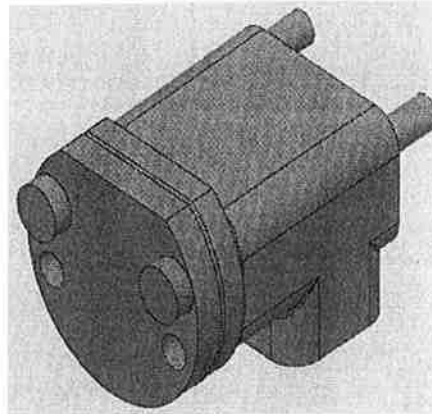

Figure 16–27
3. Use the **Joint** command to constrain the new Bolt component to the hole shown in Figure 16–27 using appropriate joint origin references.